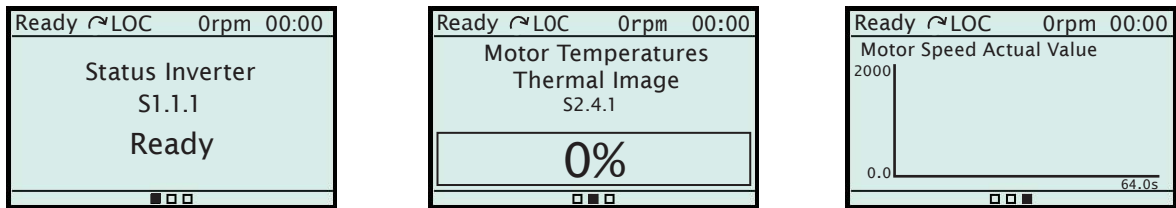

Figure 4.12: View in (a) text, (b) bar and (c) graphic
- **Full screen:** it covers an entire main screen and allows viewing reading variables in the format **text**, **bar** or **graphic**. Figure 4.12 on page 77 shows an example with the three formats.